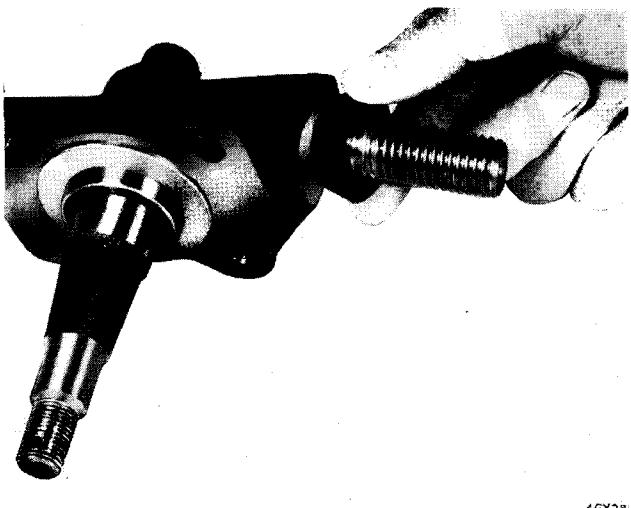

Fig. 8. Bottom trunnion seal
2. Fit a new seal (40) to the vertical link (Fig. 8).
4. Push the trunnion back into the bottom wishbone and fit the bolt (58).